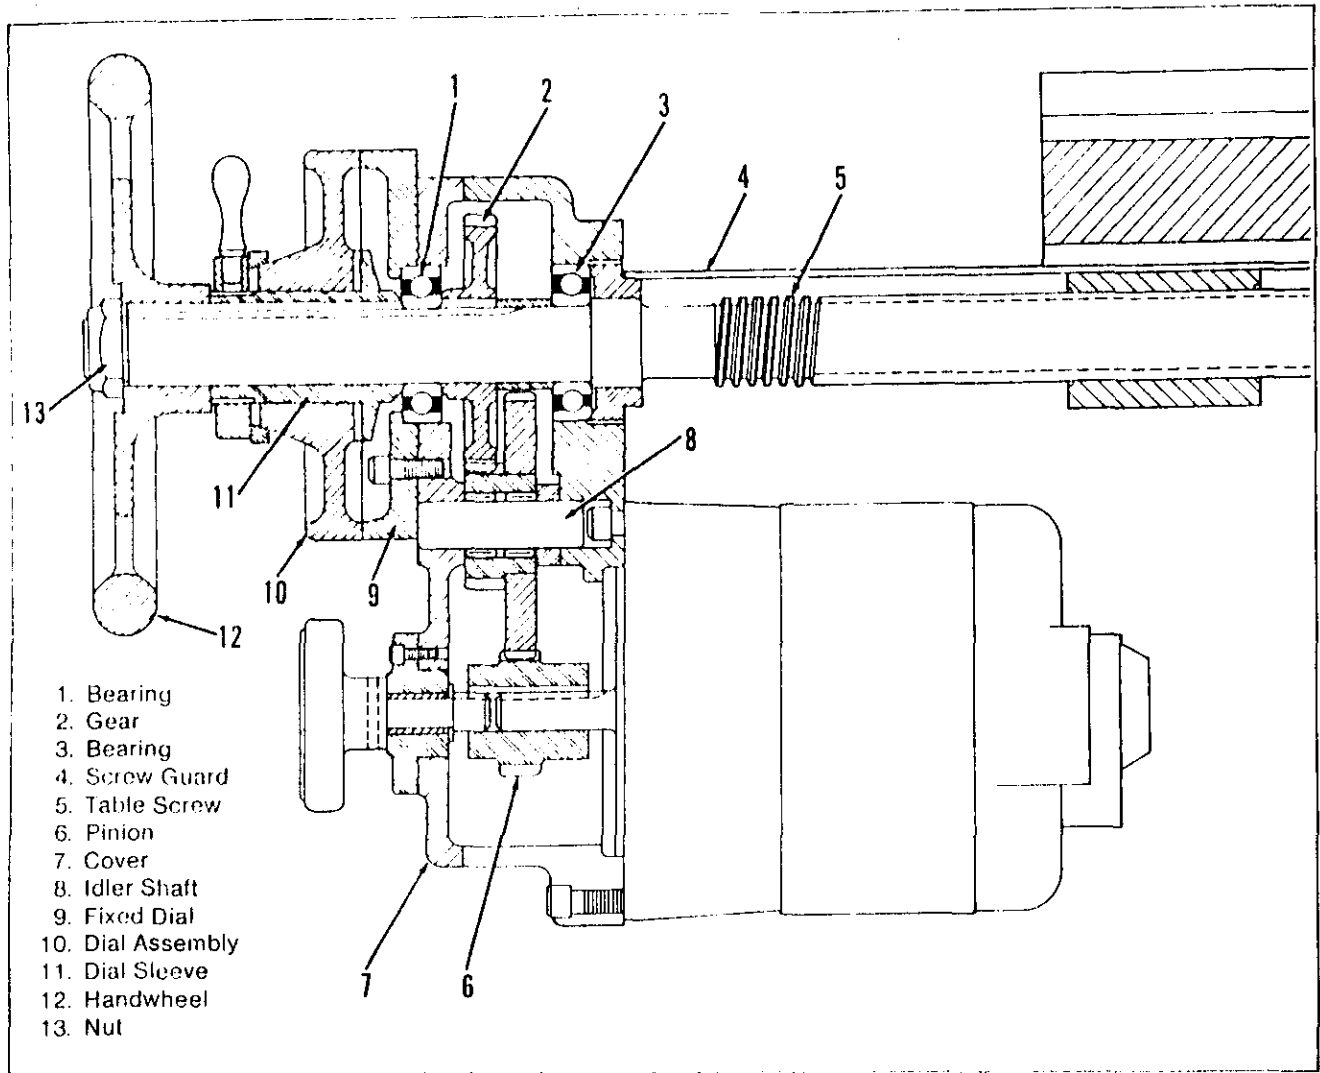

Figure M-8. Feed Screw Assembly (With Acme Threads) For Table And Saddle
### REMOVING TABLE SCREW (WITH ACME THREAD) (Figure M-8)
**REMOVING MOTOR PINION ON TABLE OR SADDLE (Figure M-8)**
1. Remove the nut (13) securing the handwheel (12) and remove the handwheel.
2. Remove the dial sleeve (11) and dial assembly (10).
3. Remove the fixed dial (9).
4. Take off the cover (7).
5. Loosen the set screw securing the pinion (6) to the shaft and remove the pinion for replacement if necessary.